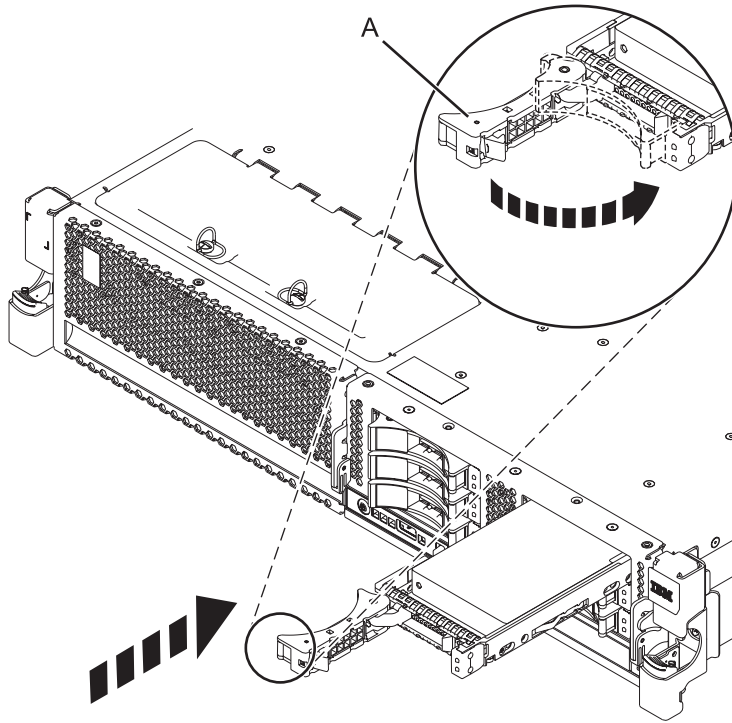

Figure 21. Installing a disk drive in the system
4. Slide the disk drive or solid-state drive all the way into the system or an expansion unit, and push the disk drive or solid-state drive handle (A) in until it locks. See Figure 21 on page 35.